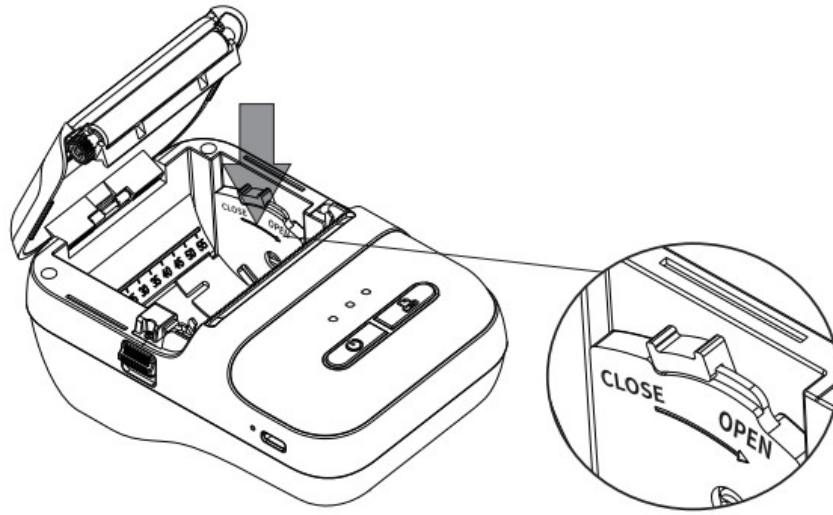

fig.3
3. Pull out part of the paper roll and close the top cover, make sure both sides of the cover are closed. (Note: Face the serrations and tear the label paper down) fig.3)
Click o open the downloaded print driver package. (fig:3)